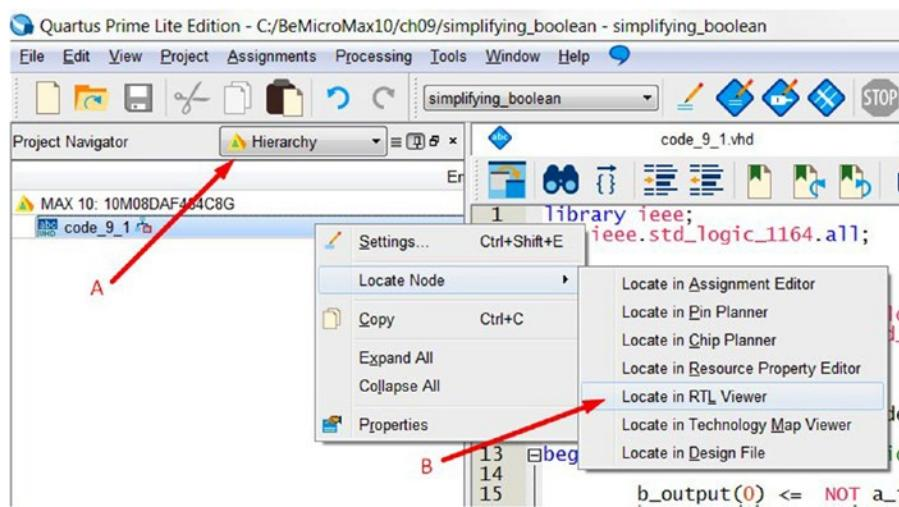

Figure 9-2. Locate in RTL viewer
4. After the compilation is done, switch to **Hierarchy** mode in the Project Navigator (A in Figure 9-2)
- Right-click the **code_9_1** design, click **Locate Node**, and select **Locate in RTL Viewer** (B in Figure 9-2)